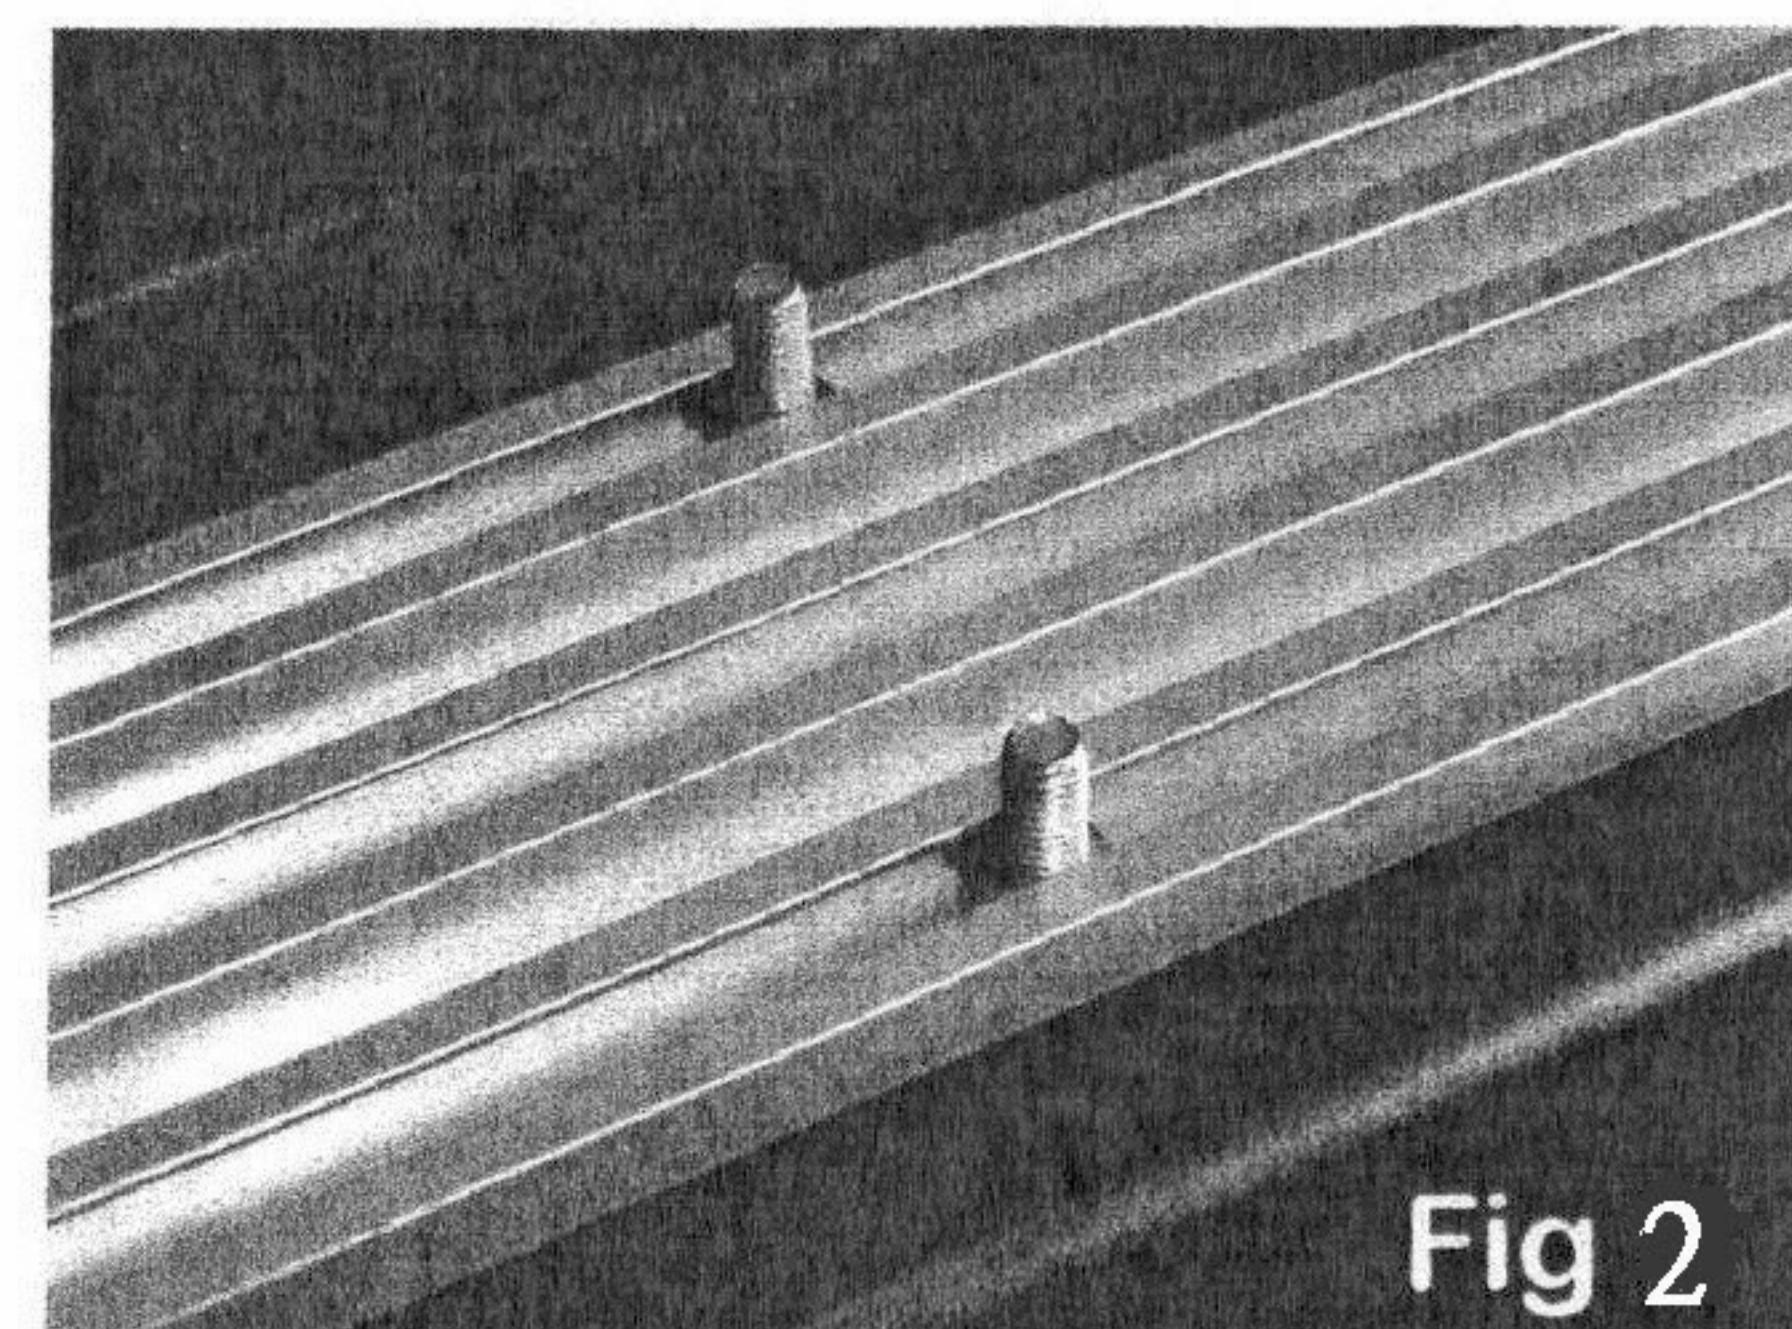

Fig 2
Step 4). Turn side bar upside down and insert 8 - 5/16" X 3/4" square head bolts, 4 into the front channel and 4 into the back channel (See Fig2). Lineup these bolts with the brackets installed on the truck. Now take bars and set into place, each bolt should line-up with holes on each bracket. Once in place fasten using Nylon lock nuts. Measure bars to ensure bars are centered. Once centered tighten ALL hardware. Repeat procedure for other side.